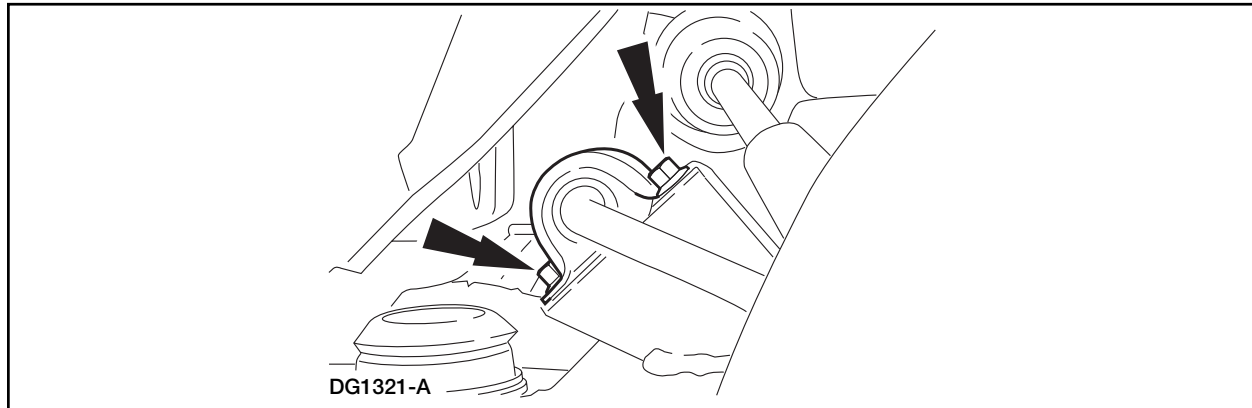

FIGURE 9
19. Remove the four stabilizer bar bracket insulator bolts. See Figure 9.